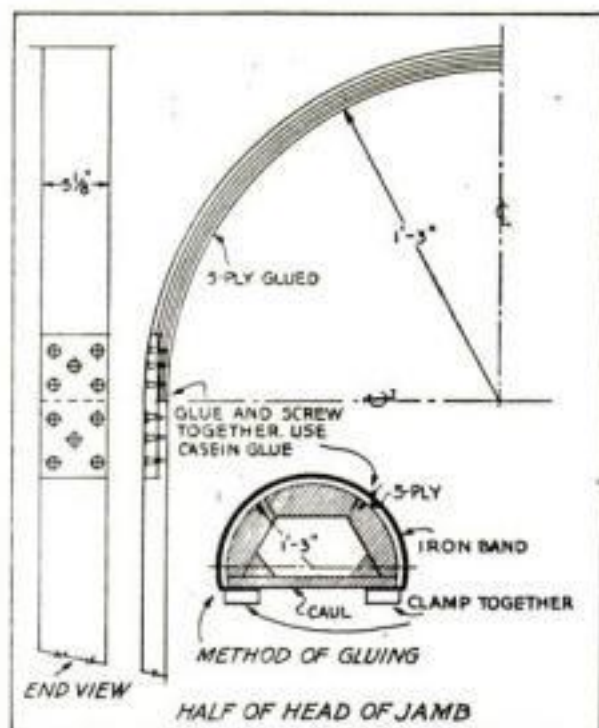

Fig. 6. Detail of the head of the jamb and the method of shaping it over a curved caul or form.
**Step No. 5—The Jamb.** Prepare a form out of scrap material for gluing and shaping the five-ply stock for the circular head of the jamb (see Fig. 6). Fasten the completed jamb to the two sides with screws.